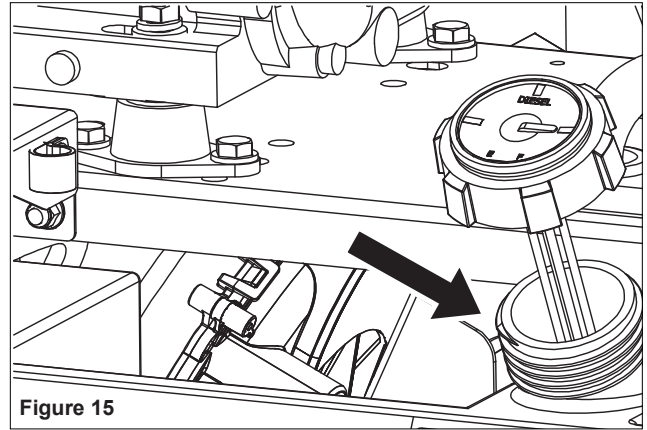

Figure 15
1. **IDENTIFY** diesel filling cap and remove it (see figure 15).